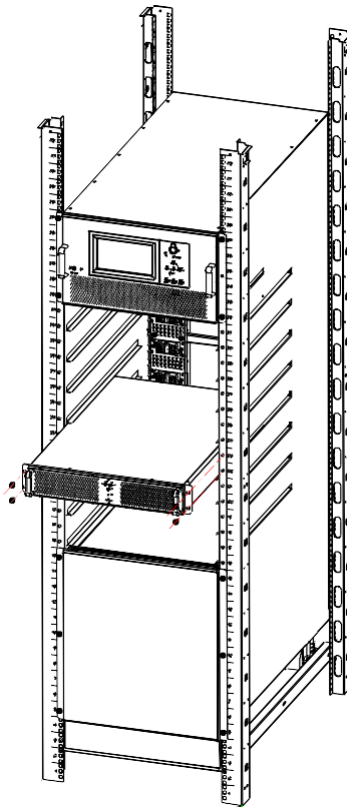

Figure 3-11 Insert module to cabinet
6. Insert module to cabinet, and lock the module panel screws, as Figure 3-11 shows;